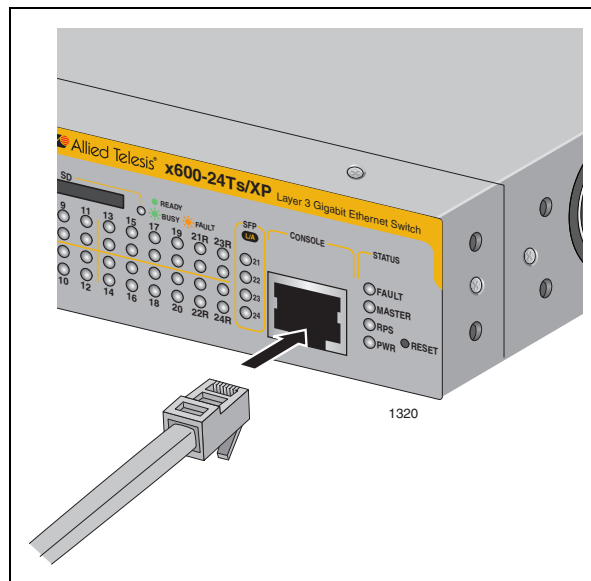

Figure 48. Connecting the Management Cable to the RJ-45 Terminal Port on the Switch
1. Connect the RJ-45 end of the management cable included with the x600 switch to the Terminal Port on the front panel of the switch, as shown in Figure 48.